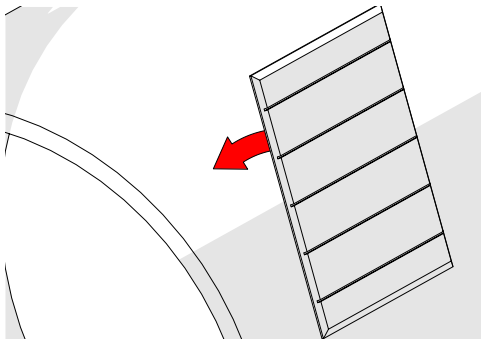

Fig. 283 - Place installation/removal mat
2. Place the installation/removal mat (Fig. 283) on the inspection surface (Fig. 283).